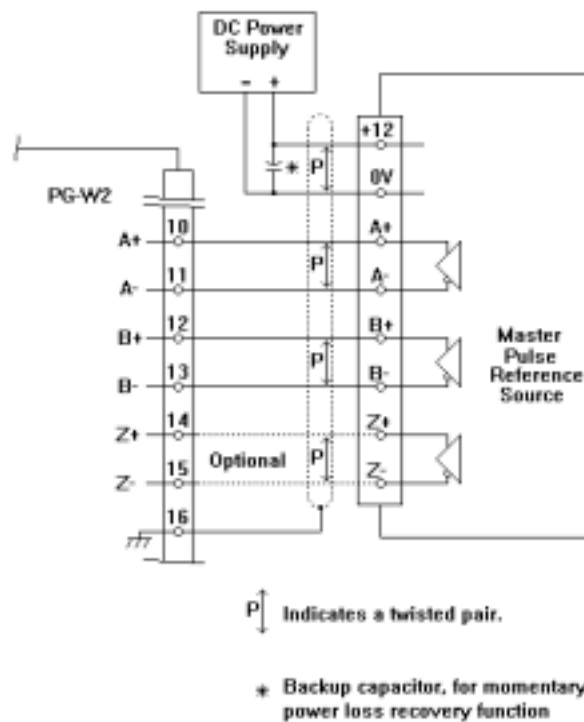

Figure 5. Using a Separate Encoder Power Supply
**14. Master Encoder:** If the master pulse reference source is an encoder, the PG-W2's power supply can be utilized to power that encoder. However, if the current draw from the PG-W2's power supply exceeds 200mA, provide a separate power supply as shown in Figure 5. If the momentary power loss ride thru function of the drive is to be used, include a backup capacitor in the PG power wiring or take other necessary precautions.
**15. Maximum Input Frequency:** The maximum input frequency of the PG-W2 card is 300kHz. To find the output frequency of the encoder (PG) in Hertz, use the following formula. Please make sure a 20% safety margin is built-in.